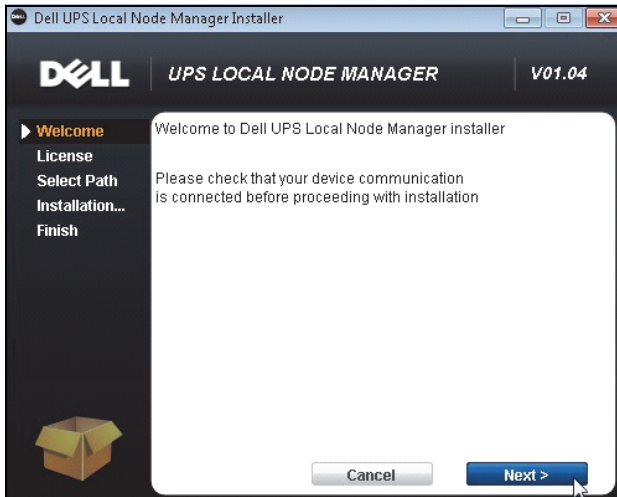

Figure 8. Welcome Screen
- 2 Observe the prompt and verify that the communication device is connected. Click **Next** (see Figure 8).